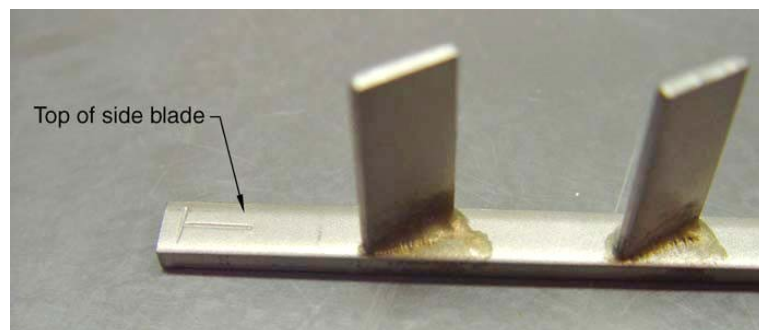

Figure 3-8 Top of Blades, “T”
6. On the side blades, locate the “T” which indicates the top (Figure 3-8).